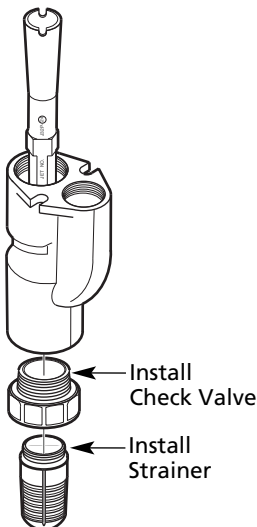

Figure 5
5. Install check valve and strainer on end of ejector body with one port (bottom of ejector – see Figure 5).